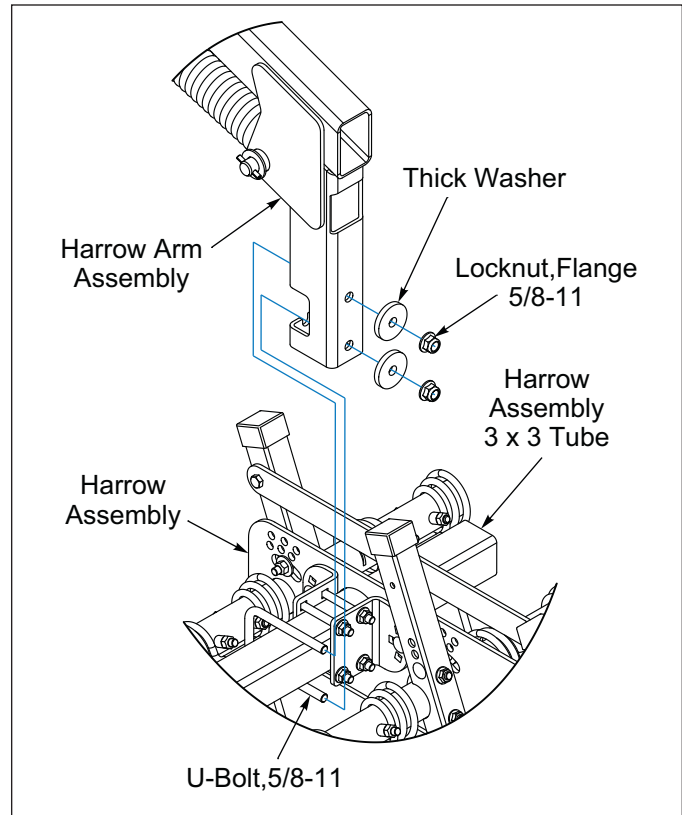

Figure 2-76: Harrow Arm Installation to Harrow Assembly
3. Attach the Harrow Assemblies to the Harrow Arm Assemblies by placing the 3 x 3 tube into the Arm Notch. Position 5/8-11 U-Bolt onto the 3 x 3 Tube and through the Harrow Arm Assembly. Secure with Thick Washers and Flange Nuts. **See Figure 2-76.**